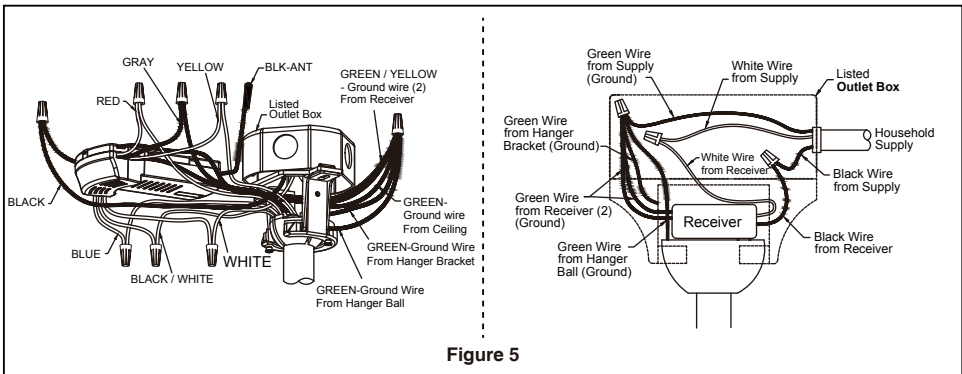

Figure 5
5. Route wires through motor coupling cover, canopy screw cover and ceiling canopy. (Figure 5)
4. After connections have been made and put the white and green leads to one side and the black leads towards the other side, the connection should be turned upward and carefully push leads into the outlet box. The wires should be spread apart with the grounded conductor and the equipment-grounding conductor on one side of the outlet box and the ungrounded conductor on the other side. (Figure 5)
- 5. Secure the glass to light kit by twisting in a clockwise direction. Twist the glass gradually until it snaps on to the light kit. Do not over-tighten. (Figure 5)
5. To set the remote code same positions as the receiver with a small screwdriver or ball point pen (neither included), slide dip switches firmly up or down. (Figure 5)